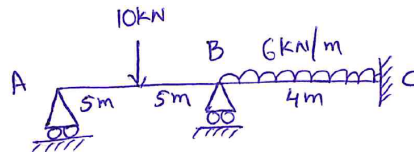

Figure 4
- (b) Analyze the continuous beam and find the support moments shown in Figure 4. [7M]